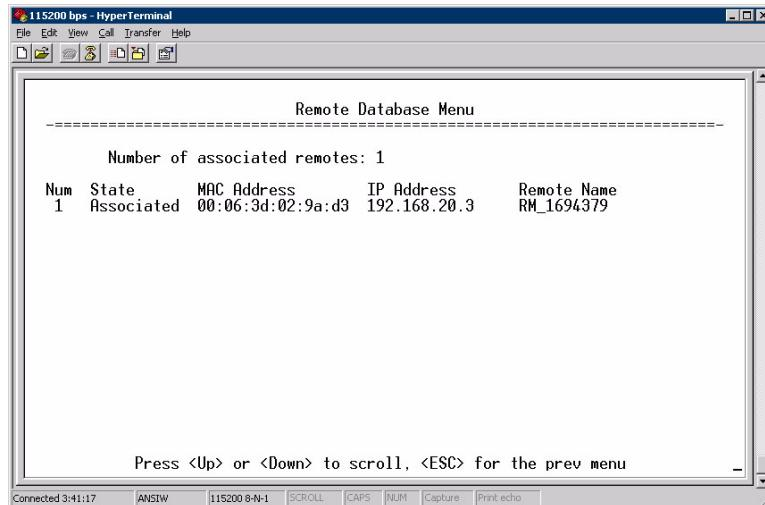

Figure 3-93. Remote Database Menu
- **Remote Database** (AP Only)—Displays a submenu where associated Remotes are listed in table form according to their number, operational state, MAC address, IP address, and name (if assigned). (See Figure 3-93 on Page 121.)